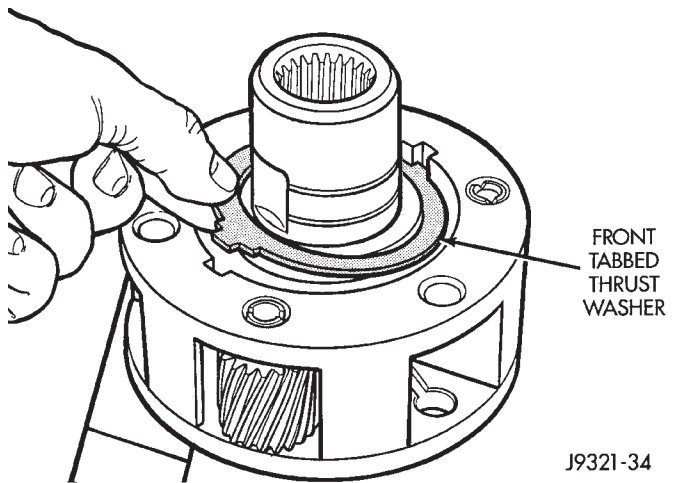

Fig. 37 Front Tabbed Thrust Washer Removal
- (3) Remove front tabbed thrust washer (Fig. 37).